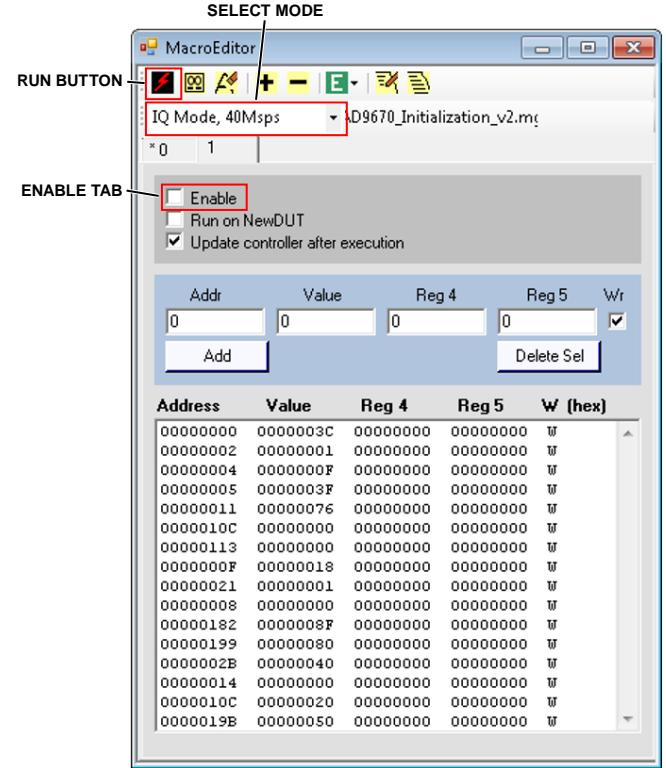

Figure 5. Select, Enable, and Run Commands in MacroEditor
- Select either the **Real Mode** or the **IQ Mode** macro from the dropdown box (see Figure 5) and select the **Enable** checkbox. To run the selected macro, click the **Run** button to conduct a write operation (see Figure 5).